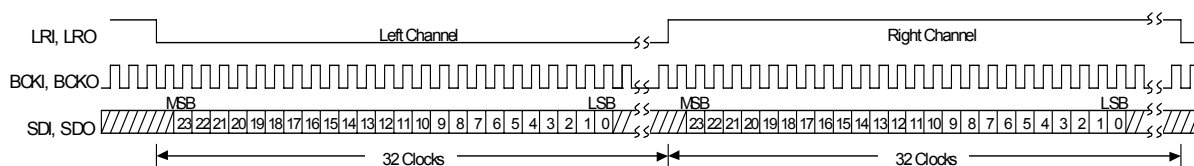
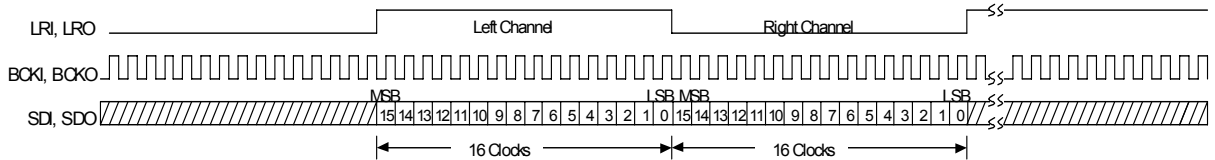

Fig. 6-1 I²S Data Format 64fs, 24bit Data
Fig. 6-12 Right-Justified Data Format 32fs, 16bit Data
The NJU26124 can use three kinds of formats hereafter as industry-standard digital audio data format; (1) I²S (2) Left-Justified (3) Right-justified and 16 / 18 / 20 / 24bits data length. (Fig.6-1 to Fig6-12)